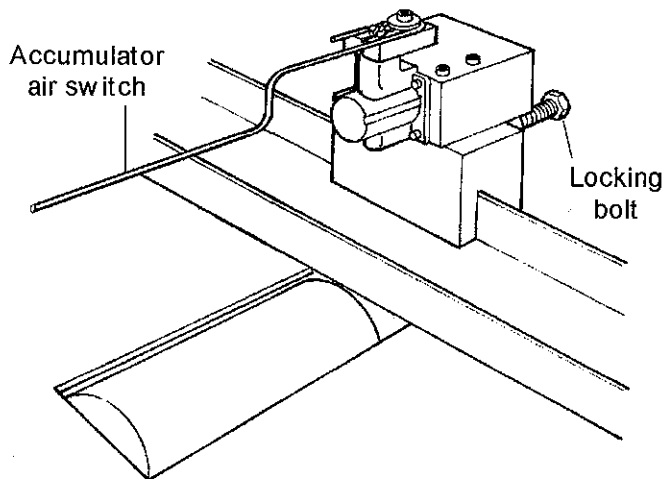

FIGURE 6-23. AIR SWITCH ADJUSTMENT.
2. See Figure 6-23. Adjust the Accumulator air switch so that the end of the cant contacts the switch once it has completely moved onto the Accumulator table.